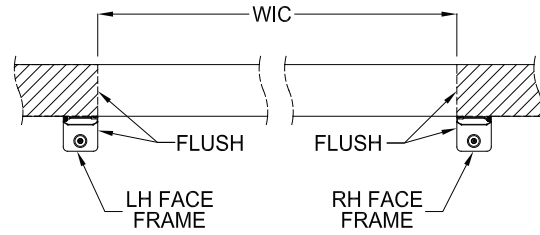
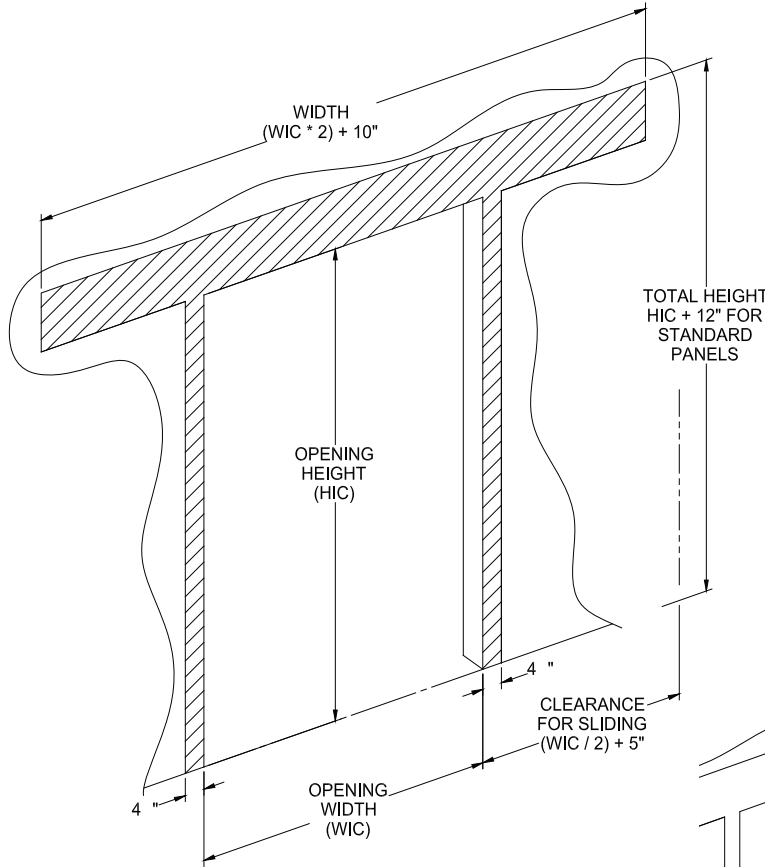
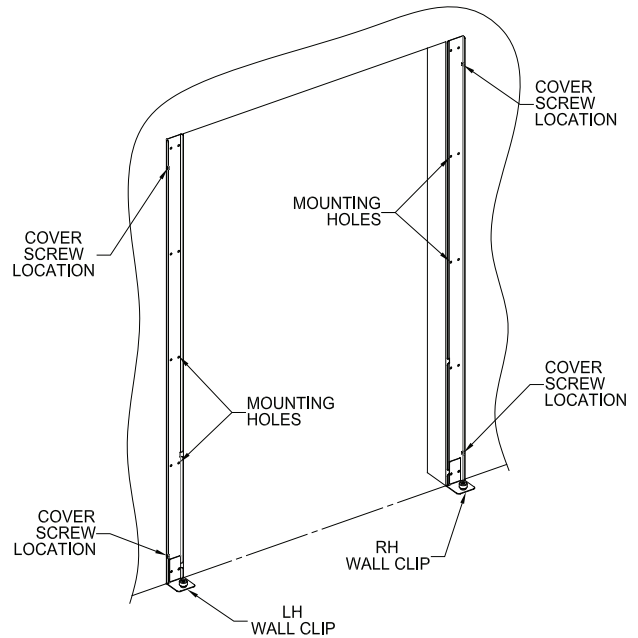
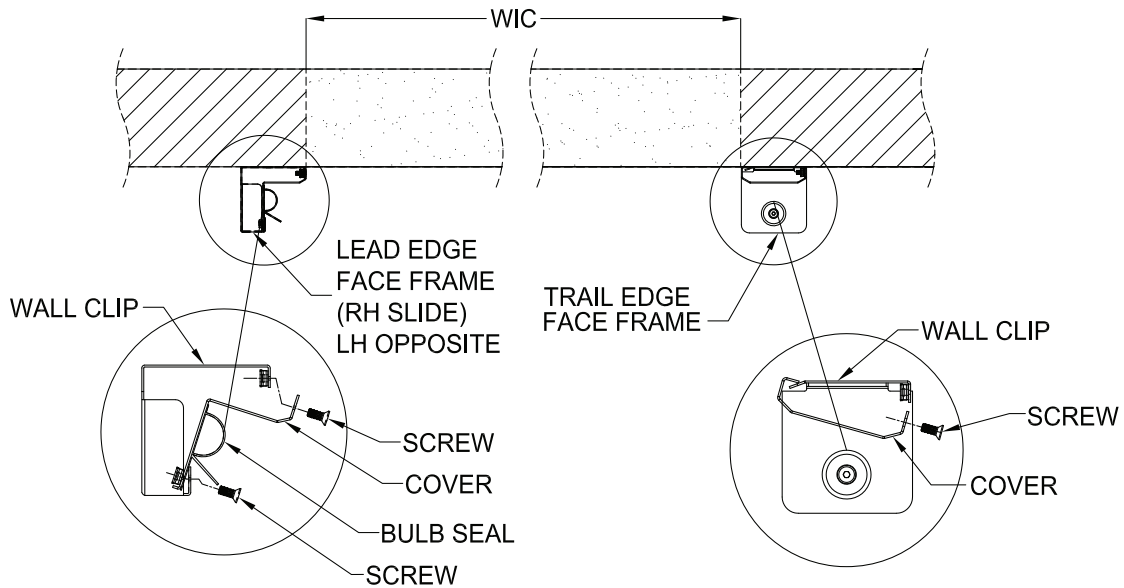

Figure 2: Wall Clip Position
Figure 3: Door Measurements
Figure 6: Installing Wall Clips to opening.
Figure 7: Fastening Face Frame Covers to Wall Clips
1. Measure door opening to verify door dimensions (Figure 3). Based upon dimensions in Figure 3, determine that door will have sufficient wall space to open. Locate side frames relative to the sides of the opening as shown in Figure 2.
1. Attach the wall clips to the wall through the mounting holes provided (Figure 6). Be sure that the clips are plumb. This is critical for proper gasket seal (Figures 2 & 4).
2. Attach the face frame covers to the face frame wall clips with screws at locations shown in Figure 6 & Figure 7.